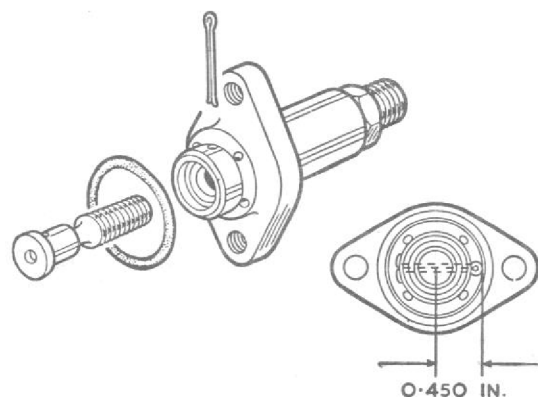

Fig. 16. Oil feed restrictor locking
- (6) Remove the upper and lower vertical gear assemblies from the centre housing as described in Chapter 23.
- (7) Examine the gears visually for plucking, burrs, and condition; rectify as necessary.
- (8) Replace the gear assemblies, as described in Chapter 33C.
- (9) Examine, as far as possible, the gears in the top and bottom wheelcases.
- (10) Remove the oil suction and pressure filters; examine and clean both filters. The pressure filter must not be immersed in kerosine, gasoline, or any similar cleaning fluids, and care must be taken that foreign matter is not transferred to its inner surface. Replace the filters.
- (11) Remove and dismantle the oil restrictor as described in Chapter 23.
- (12) Inspect for cleanliness and, if necessary, thoroughly wash in clean kerosine. Using a new split pin (Part No. SP9-C8), re-assemble the restrictor as described in Chapter 33F.
- (13) Ensure that the split pin does not protrude past the shoulder on the restrictor as shown in fig. 16.
- (14) Remove the transparent blanks and refit the blanking plates removed for the purpose of the rig test.
- (15) Using blanking plate T74974, blank off the top wheelcase.
- (16) Using blanking plate T74975, blank off the starter mounting face on the top wheelcase.
- (17) Using blanking plate T74770, blank off the bottom wheelcase.
- (18) Using two blanking plates T74765, blank off the two fuel pump faces.
- (19) Blank off the following faces of the air-intake, the top wheelcase face using blank T74970, the bottom wheelcase face using T74971, the centre housing aperture using blank T74972, and the oil spray face with blank T74973.